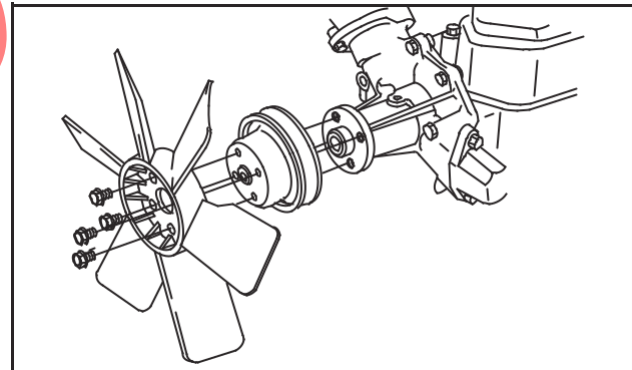

Fig. 12 – Installing Fan And Pulley
6. Install fan (if equipped) and water pump pulley, Fig. 12.